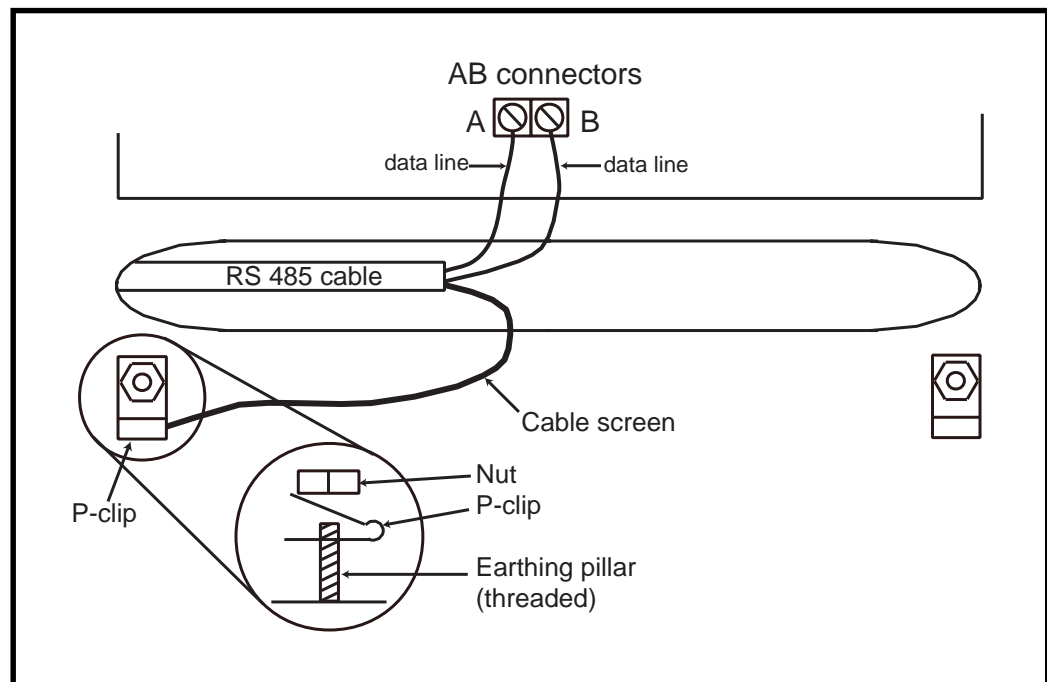

Figure 2-10 Connection of Cable screen using the P-Clip
4. Shielded twisted pair cable, where used, is connected to the earthing pillar on the Galaxy control panel using the P-clip and nut supplied (refer to Figure 2-10).